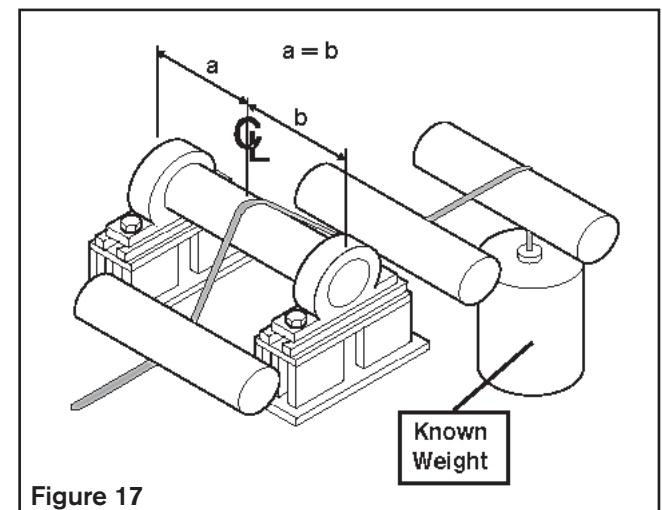

Figure 17
2. Under Calibration Set 1, enter the web tension that will be used to calibrate the span condition into the SPAN TENSION box. Span Tension is equal to the weight as shown in Figure 17 and should be set as close as practical to MAXIMUM SETPOINT.
5. Load the tension sensing roller, as shown in Figure 17, using the amount of web tension entered for SPAN TENSION in step 2 and then press OK.